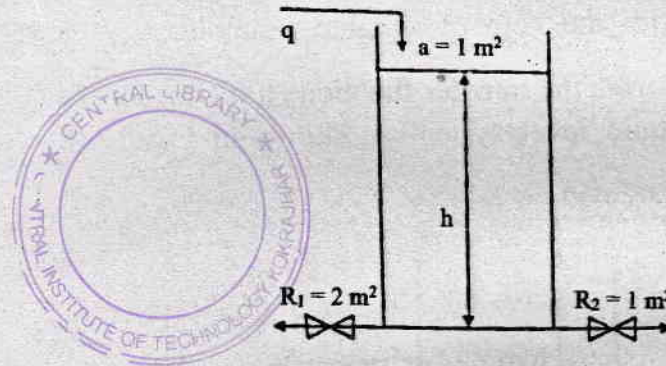

Fig. 2
- (c) Derive the transfer function $H(s)/Q(s)$ for the liquid level system shown in Fig. 2 [H and Q are the deviation variables in 'h' and 'q' respectively].